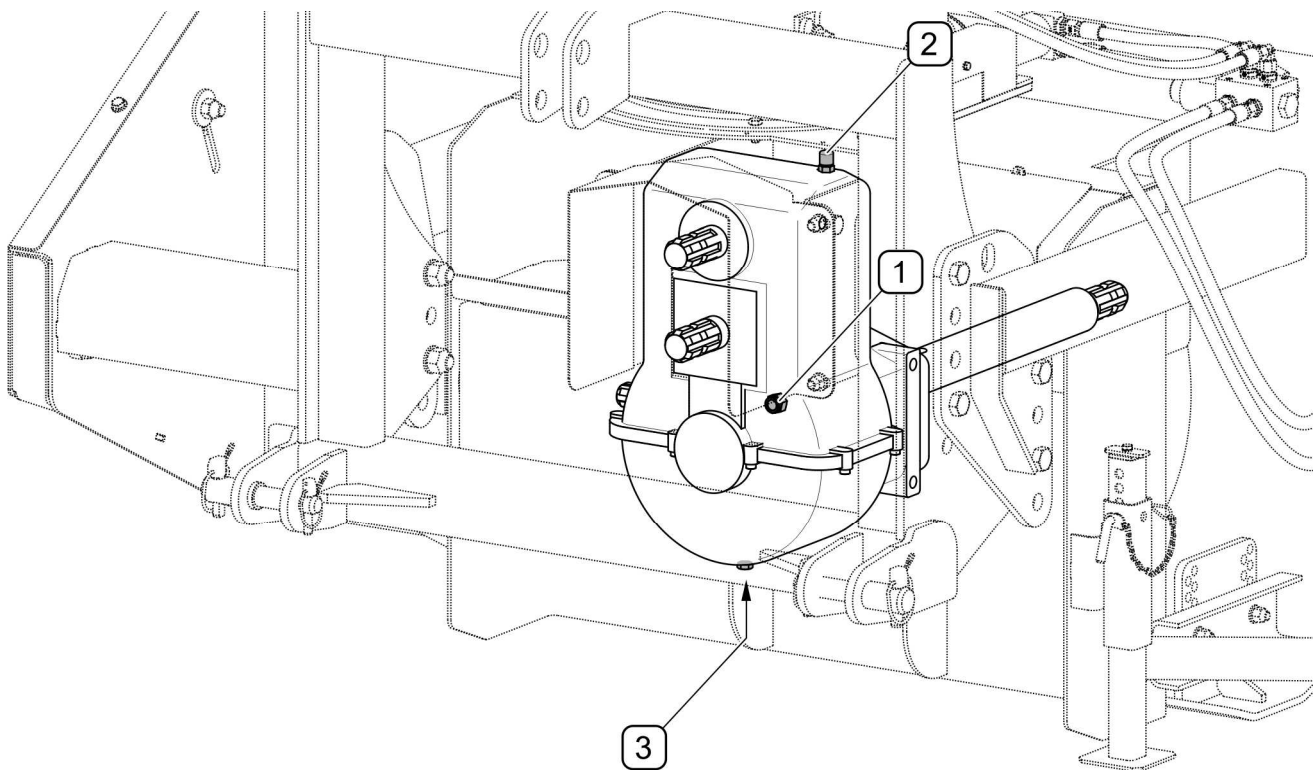

FIG. 5.1 **Checking and change of oil in main transmission**
In the new machine, main transmission (FIG. 5.1) is pre-filled with gear oil of 80W/90 API GL-4 class. Transmission gear maintenance involves periodical checking of oil level and changing oil. To check the oil level in main transmission:
- unscrew inspection plug (1) (FIG. 5.1),
- oil level should reach the lower edge of the plug opening (1),
- if necessary, add oil through the filler plug (2)
It is best to change oil immediately after completing work when transmission gear is still hot and impurities are suspended in oil. Before changing oil in transmission (FIG. 5.1):